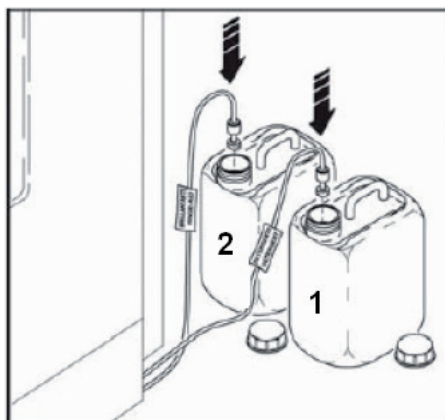

Fig. 22
- In case the dishwasher is supplied with automatic detergent (1)/rinse additive (2) dosing device, check the detergent and rinse additive level in the in the external tanks and replace or fill up if necessary (fig. 22)